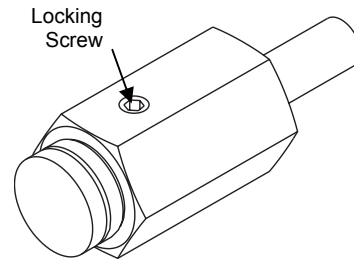

Figure 22 *Loosening the Locking Screw*
1. Loosen the locking screw, using the supplied hex key. See Figure 22.